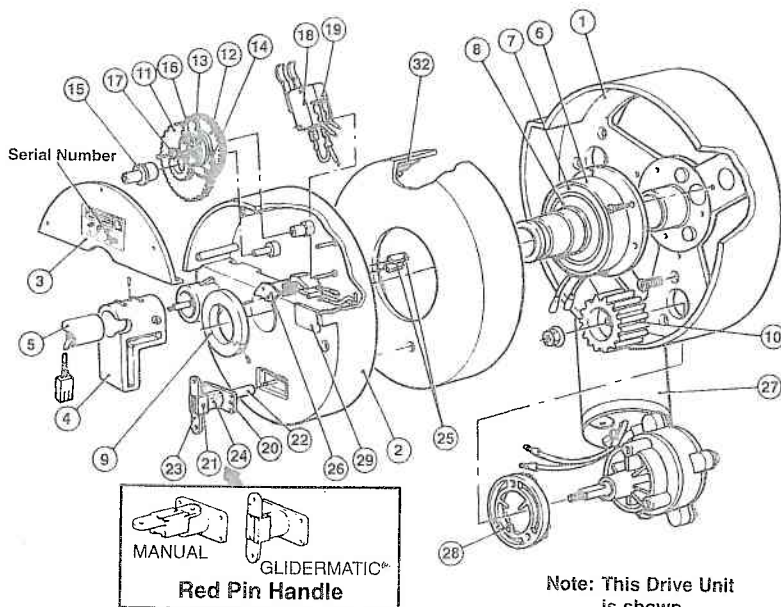

Fig. 1
- v) Engage Glidermatic by switching manual release pin to automatic refer (Fig. 1).